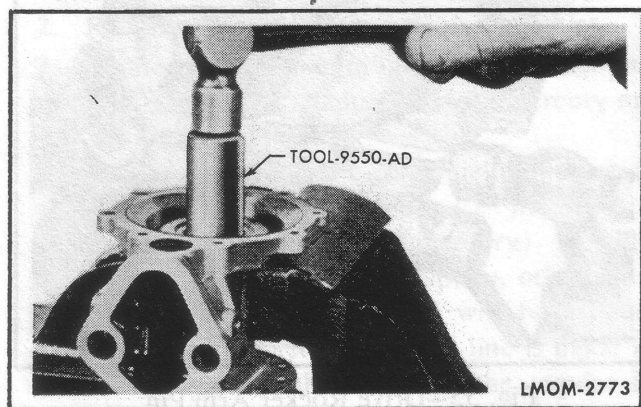

Fig. 57—Install Diaphragm Rod Seals.
2. Install fuel and vacuum diaphragm rod seals with Diaphragm Seal Installing Tool 9550-AB and stake body to secure seals. See figure 57.